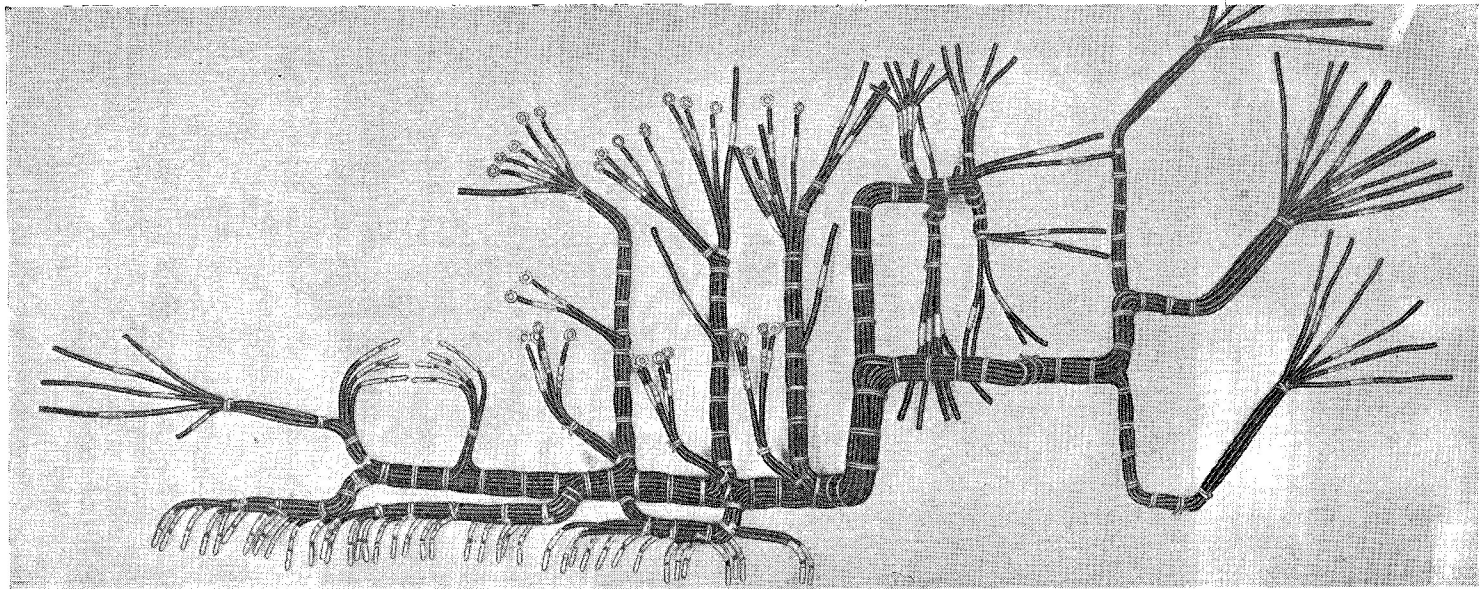

Fig. 6. Typical cable loom, showing cable ends prepared for various terminals
1. The standard S.B.A.C. wiring system is based on the single-pole, single-core principle, using cables run in ducts or conduits between connector blocks. It was originally designed for cables of the "cel," "rubber," and "vin" ranges, but is also used with Pren and other cables. All metal used is non-ferrous to reduce risk of depreciation through corrosion. A list of the parts, with their Ref. numbers, is given in Appendix 1, and details of the identification scheme used with this system in Appendix 2. A typical bomb bay installation is shown in fig. 1, and further illustrations of the system are given in fig. 6, 7, and 8.